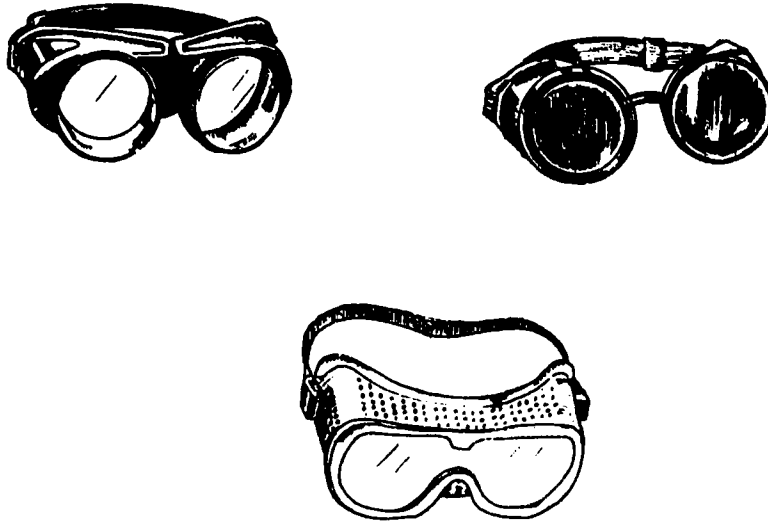

Fig 2-38. Some types of protective eye goggles.
- Use protective equipment, such as eye goggles (fig 2-38), when using grinding machines, while soldering, or when striking chisels. Protective eye goggles should be worn whenever there is a slight possibility that a foreign object could enter the eye.